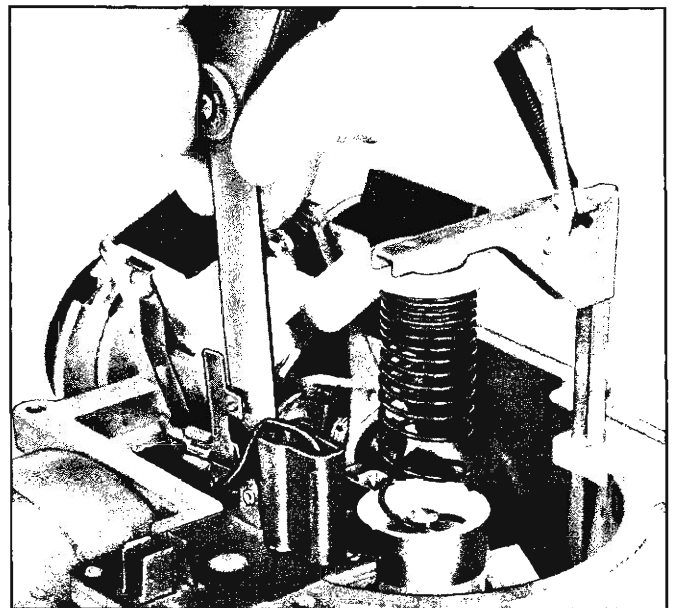

Fig. 69—Omni-Switch Adjustment
4. Using a feeler gage measure gap opening between points of omni-switch (fig. 69). This gap must be .025 inch \pm .010 inch. If gap is not within specifications, bend inboard point (inboard from magnet assembly) until proper gap is obtained and points are aligned.